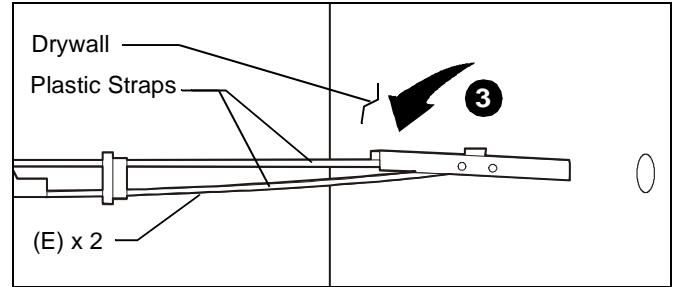

Figure 6
3. Hold metal channel on anchor (E) flat alongside plastic straps and slide channel through hole. (See Figure 6)